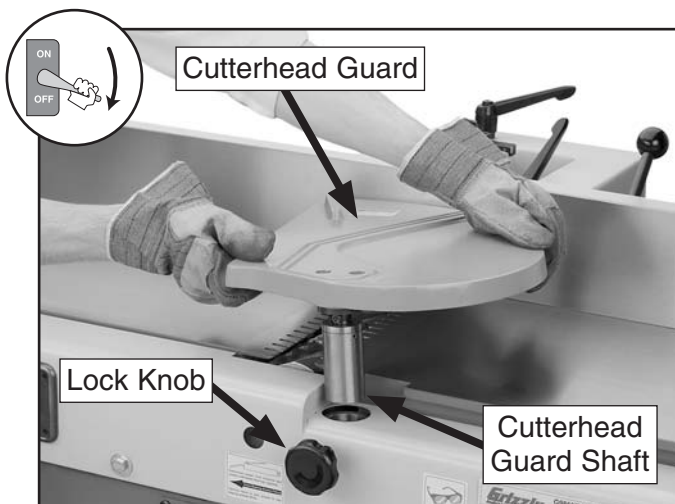

Figure 22. Installing the cutterhead guard.
2. Loosen the lock knob shown in **Figure 22** that secures the cutterhead guard shaft.